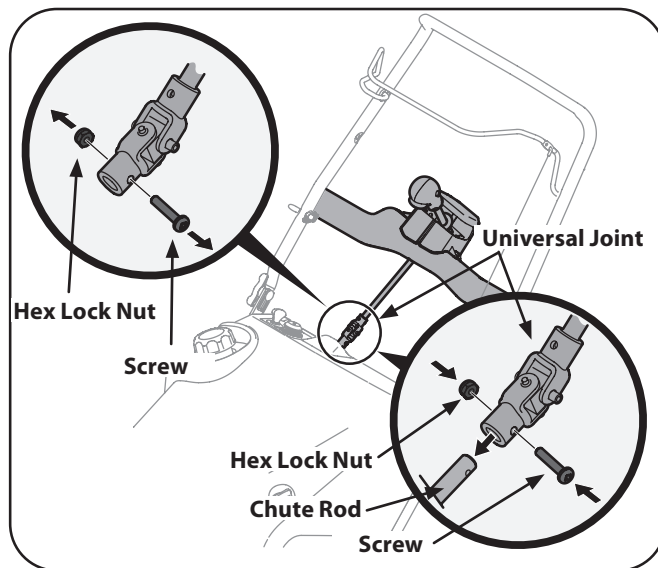

Figure 3-8
3. Remove the screw and hex lock nut from the universal joint. See Fig. 3-8.
4. Install the universal joint on the end of the chute rod as shown in Fig. 3-8.
5. Secure the universal joint with the hex nut and screw previously removed. See Fig. 3-8.